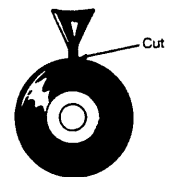

Figure 10
- Trim off excess compound from filler spout by cutting off at base (Figure 10).